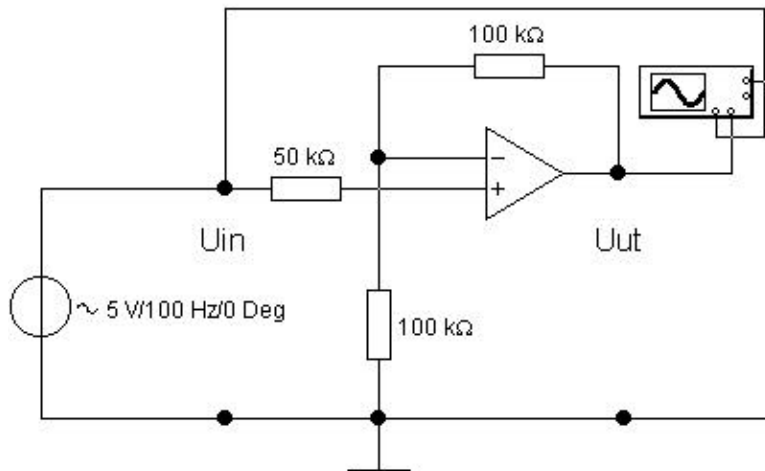

Figure 4.4
- b) Change the circuit to the one shown in the Figure 4.4. It should be noted that the common agreement among the op-amp users is to not include the supplying pins of op-amps in the schematic drawings, assuming that their connections to power supplies are obvious). **Don't remove the 15 V supply pins!!!**